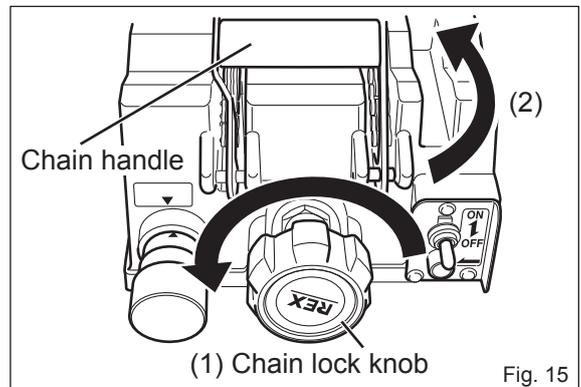

Fig. 15
2. Clamping the Workpiece (Figs. 15 - 22)
XB125 Chain Vice (Figs. 15~17)
- (1) Turn the chain lock knob anti-clockwise and release the chain lock (Fig. 15)
- (2) Unhook the chain handle and place at the rear of the vice. (Fig. 15)